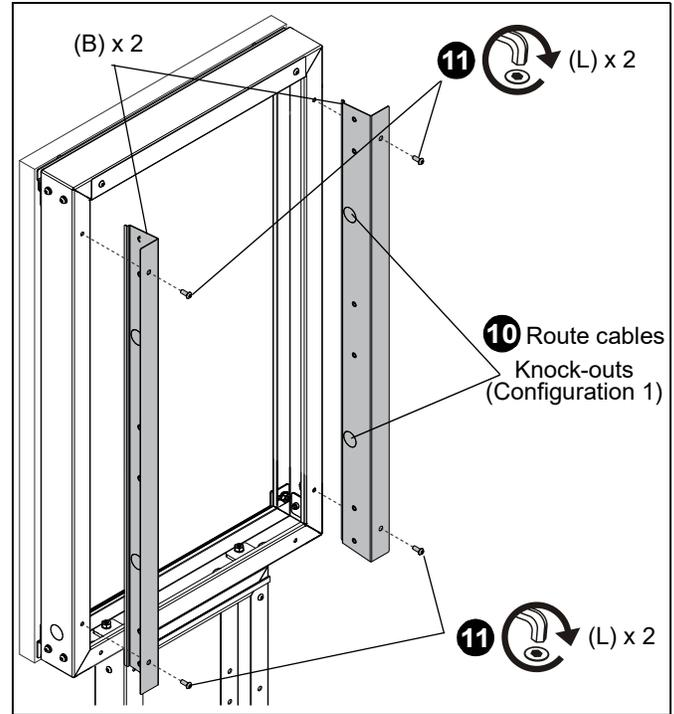

Figure 18
- Route all cables from sides of frame(s) through grommets in vertical covers (B) towards the center of the frame.
- Install two vertical covers (B) to the sides of the frame(s) using four M8 x 20mm security screws (L). (See Figure 18)